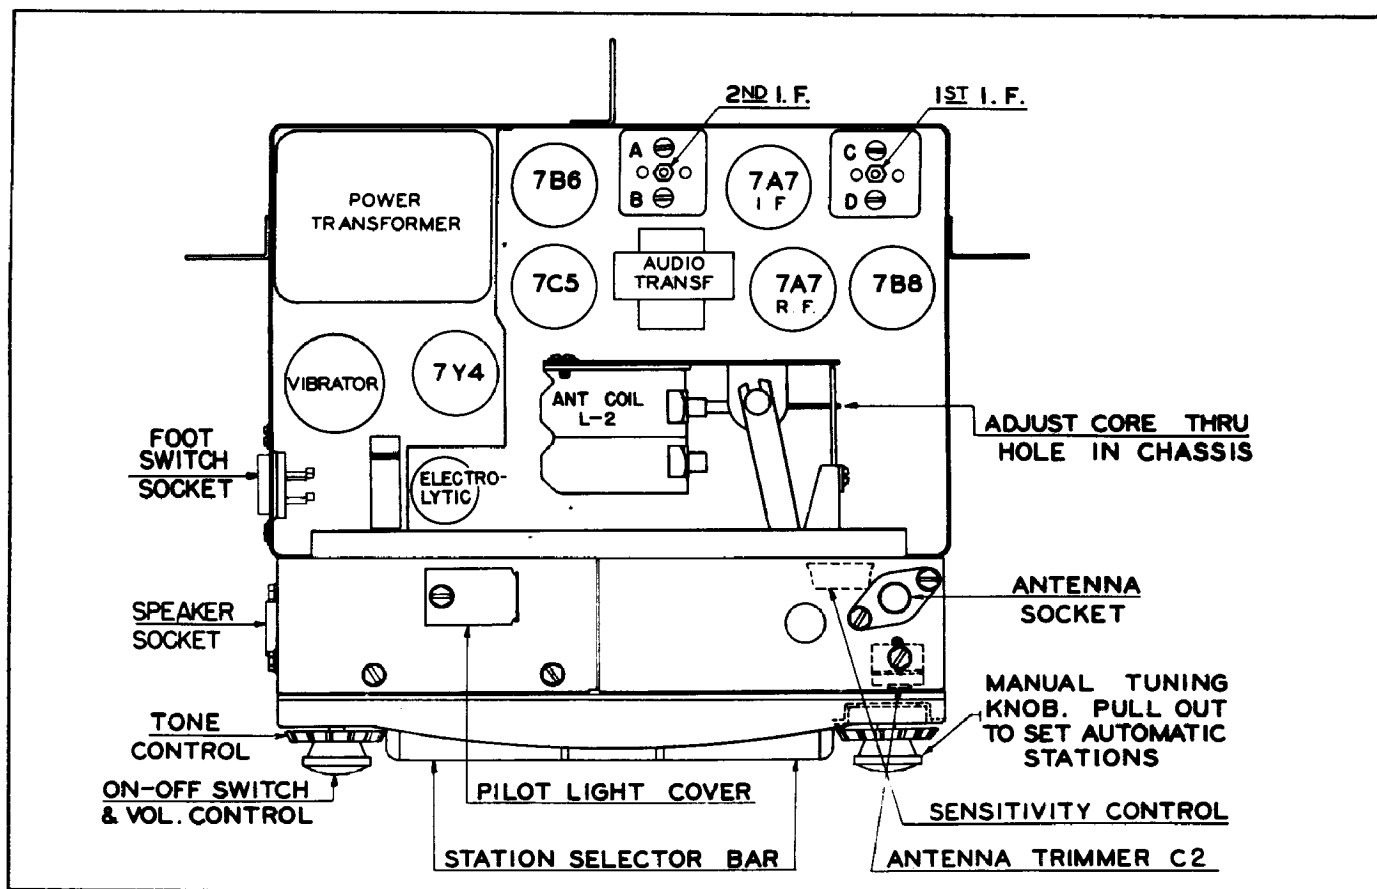
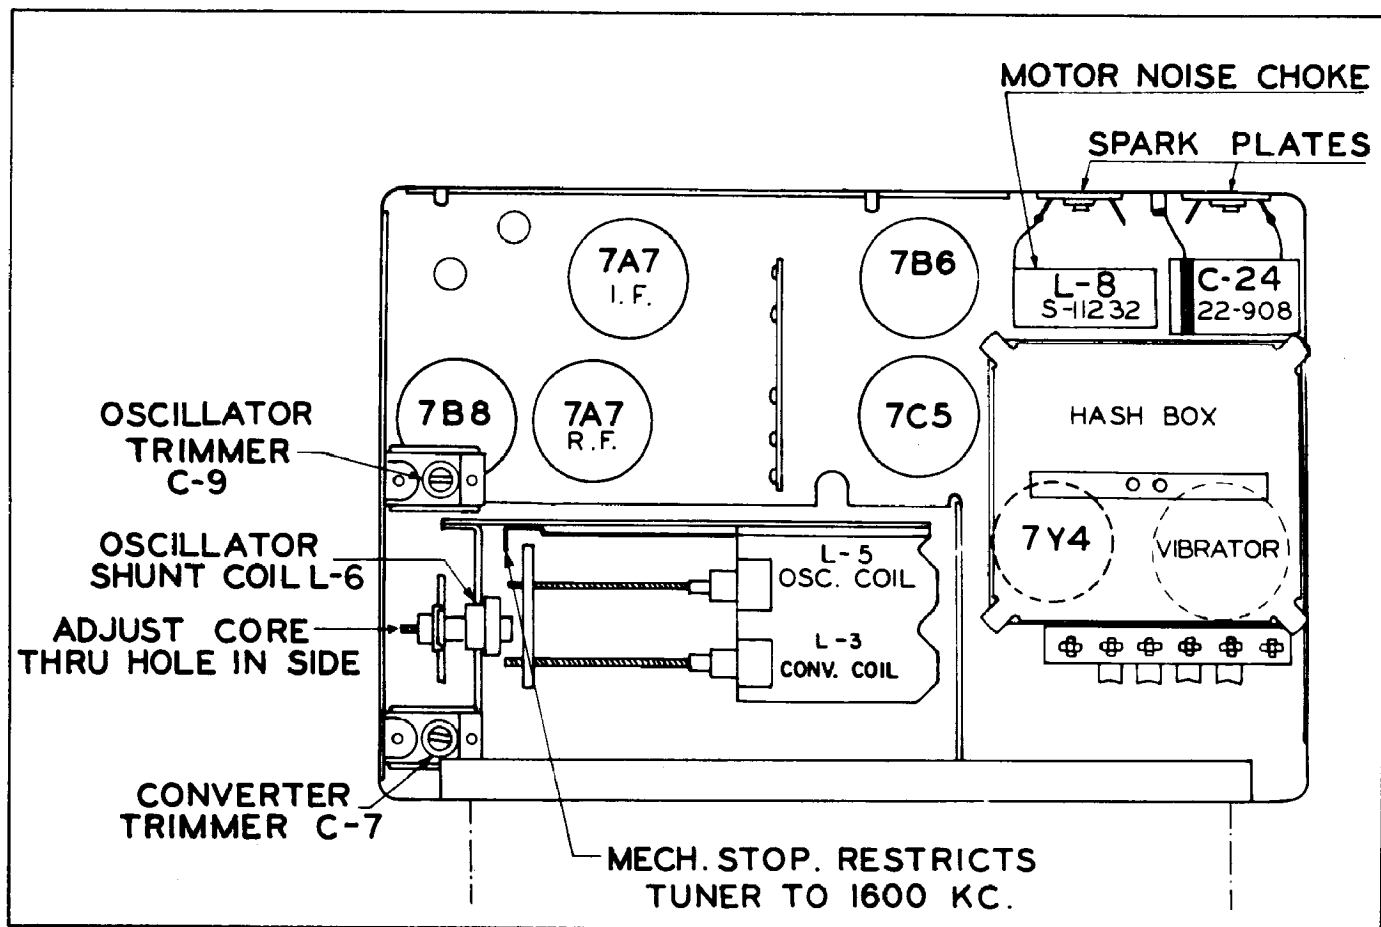

Fig. 7. Top View of Chassis
Fig. 8. Bottom View of Chassis
- 4—Adjust I.F. trimmers, A, B, C and D (Fig. 7) in the order named for maximum output. Repeat the operation to assure accurate alignment.
- 4—Adjust oscillator trimmer C-9 (Fig. 8) for maximum response.
- 7—Adjust converter trimmer C-7 (Fig. 8) and antenna trimmer C-2 (Fig. 7) for maximum response.
- 6—Adjust oscillator trimmer C-9 (Fig. 8) at 1700 Kc.
- 7—Adjust converter trimmer C-7, and antenna trimmer C-2 (Fig. 7 and 8) for maximum output reading.
- 10—Adjust oscillator core L-5 (Fig. 8) to scale at 1200 Kc.
- 11—Adjust the antenna core L-2, and converter core L-3 (Fig. 7 and 8) for maximum output reading.
- 13—"Rock in" shunt oscillator coil L-6 (Fig. 8) for maximum output reading. This should be done only as a last resort. This is the same as rocking in the padder condenser on a ganged condenser receiver.